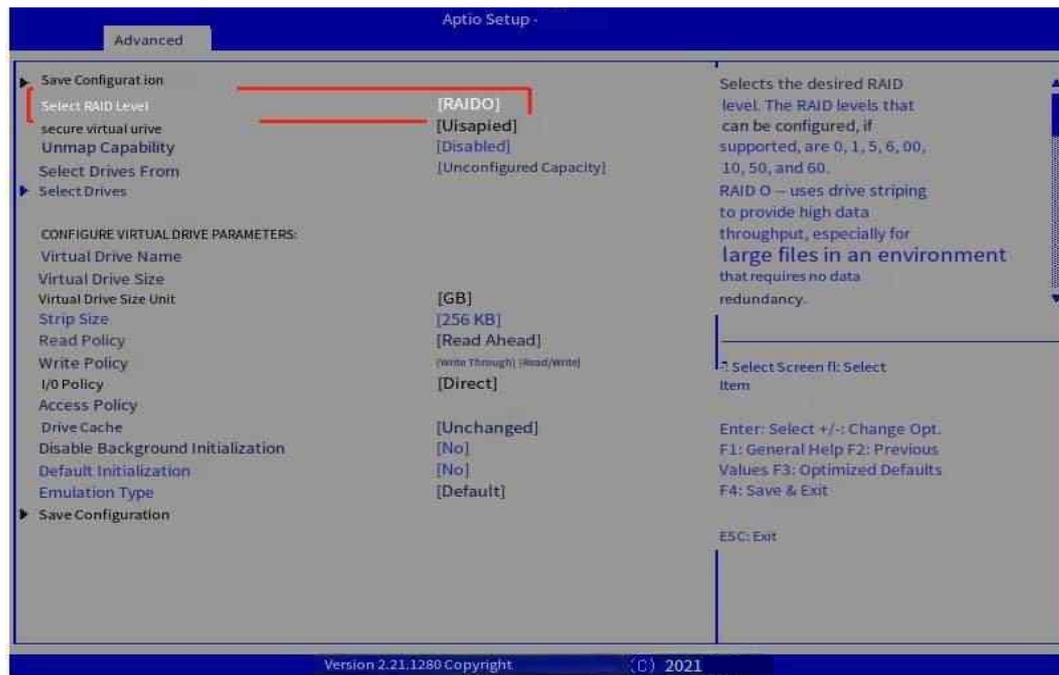

Figure 7-5 Select a RAID level screen
Step 2: Open the RAID configuration screen, Select a RAID Level, use ↑ and ↓ to select Select RAID Level and press Enter, select RAID 0 from the displayed list, and press Enter (Figure 7-5) :